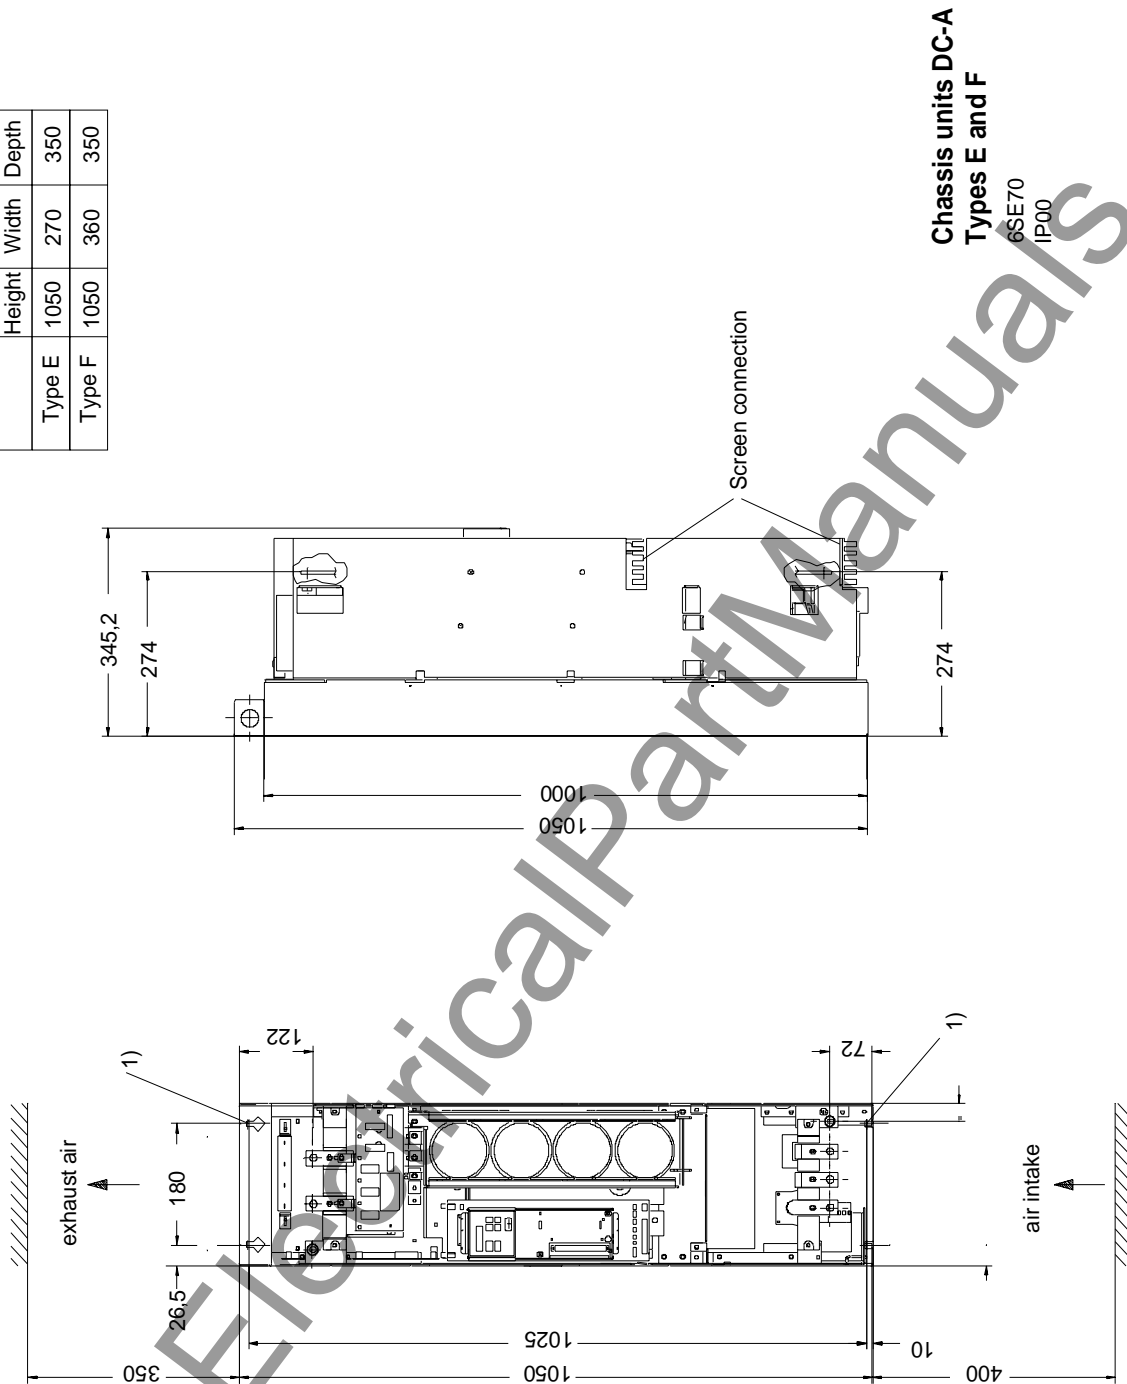
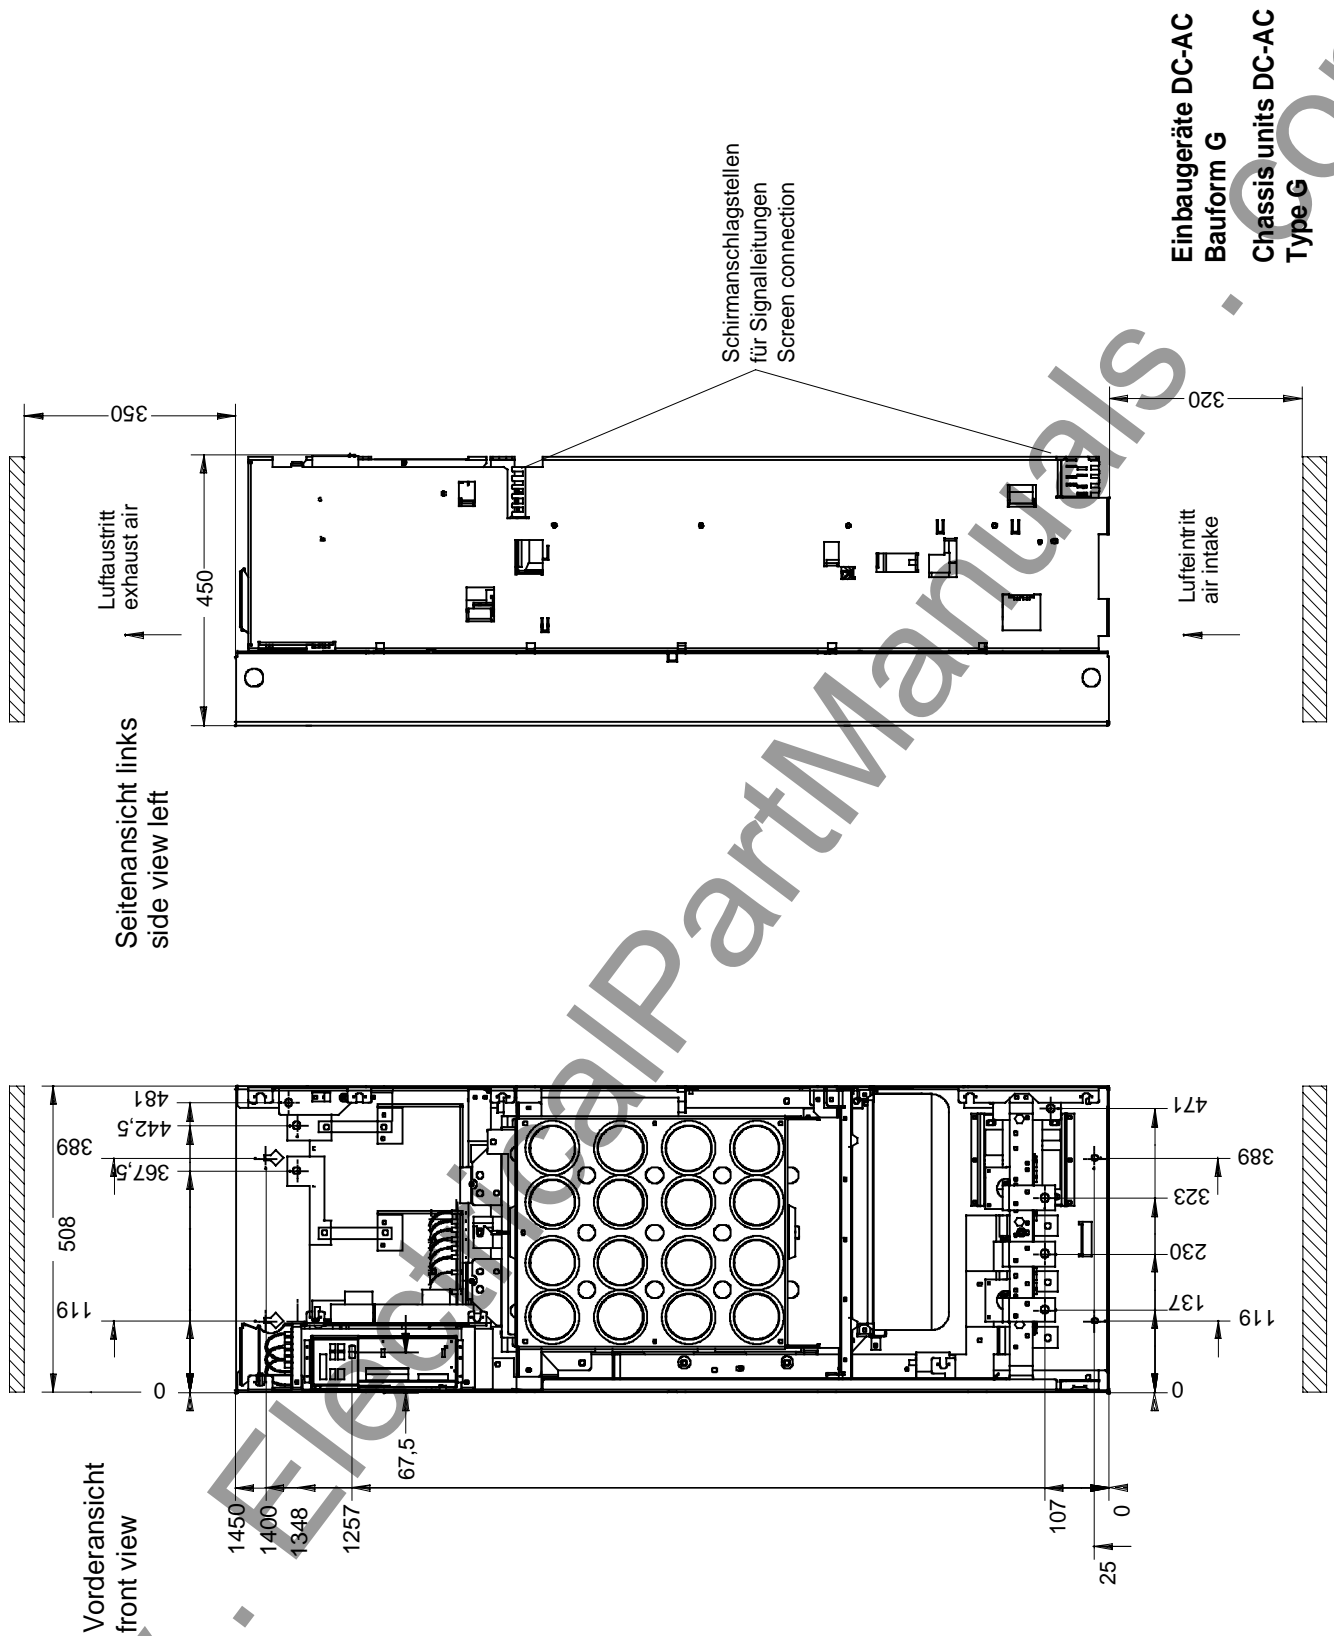

Fig. 2.2 Types E and F
Fig. 2.3 Type G
- ♦ Dimension drawings: Fig. 2.2 for types of construction E, F, Fig. 2.3 for types of construction G and Fig. 2.4 for type of construction H.